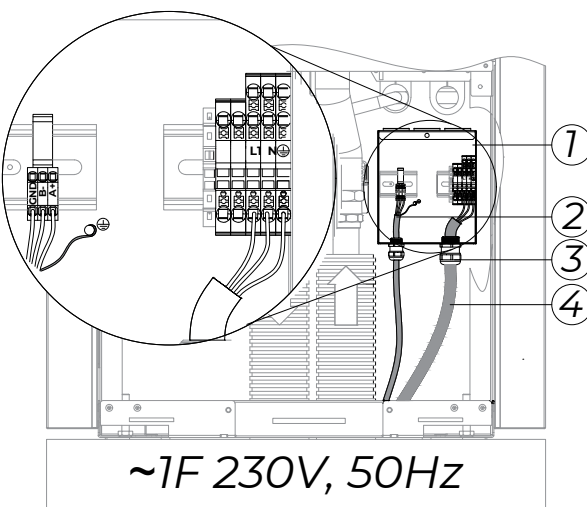

Figure 17: Single-phase ~230V electric connection
Wire the power cable (4) into the electrical box (1) (Figure 17) through the cable gland (3) (see Table 1). Attach the wires to the terminals. Tighten the cable gland so that you unburden the cable.
3	Braid the wires together as shown in Figure 17, insert them into end sleeves, and crimp them.